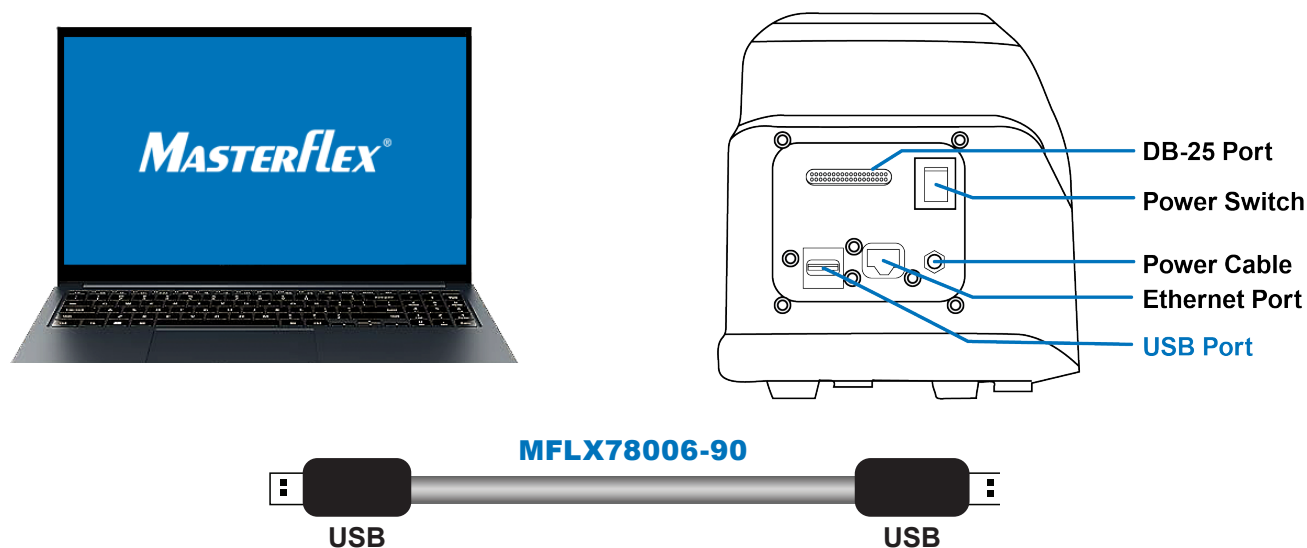

Figure 7. Adapter cable for PC Host interface for Pump Serial Communication control.
RS232 Serial communication is available via virtual com port utilizing the USB port on the back panel of the drive-pump. An adapter cable is required for communication (see Figure 7 below).
- If a host PC operating on Windows®, Mac®, or Linux® is being used to control the pump through serial communication, the Masterflex **MFLX08006-90** serial cable is needed (see Figure 7 below).